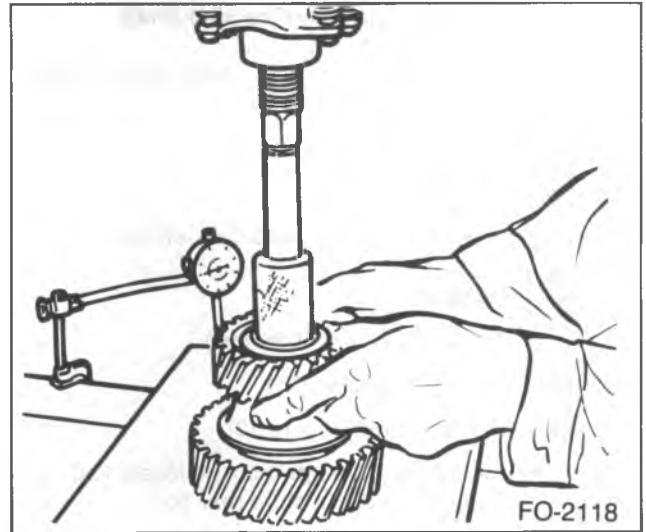

Figure 10—Idler Gear End Play Check
- End play. Limits are .025-.051 mm (0.001-0.002-inch) (figure 10).